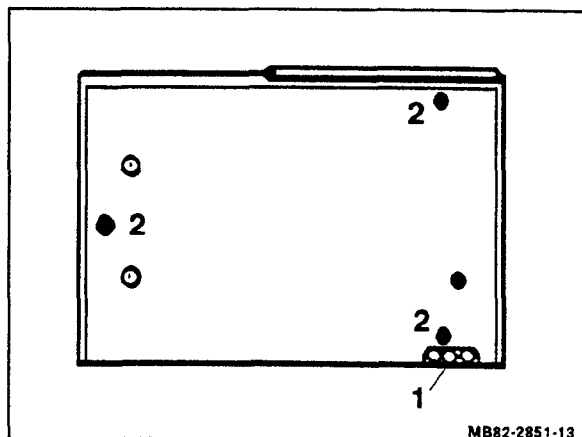

Figure 1
2. Remove shipping screws (2) from CD changer. Reposition screws in storage location (1). Cover screws holes with dust covers (Fig. 1).